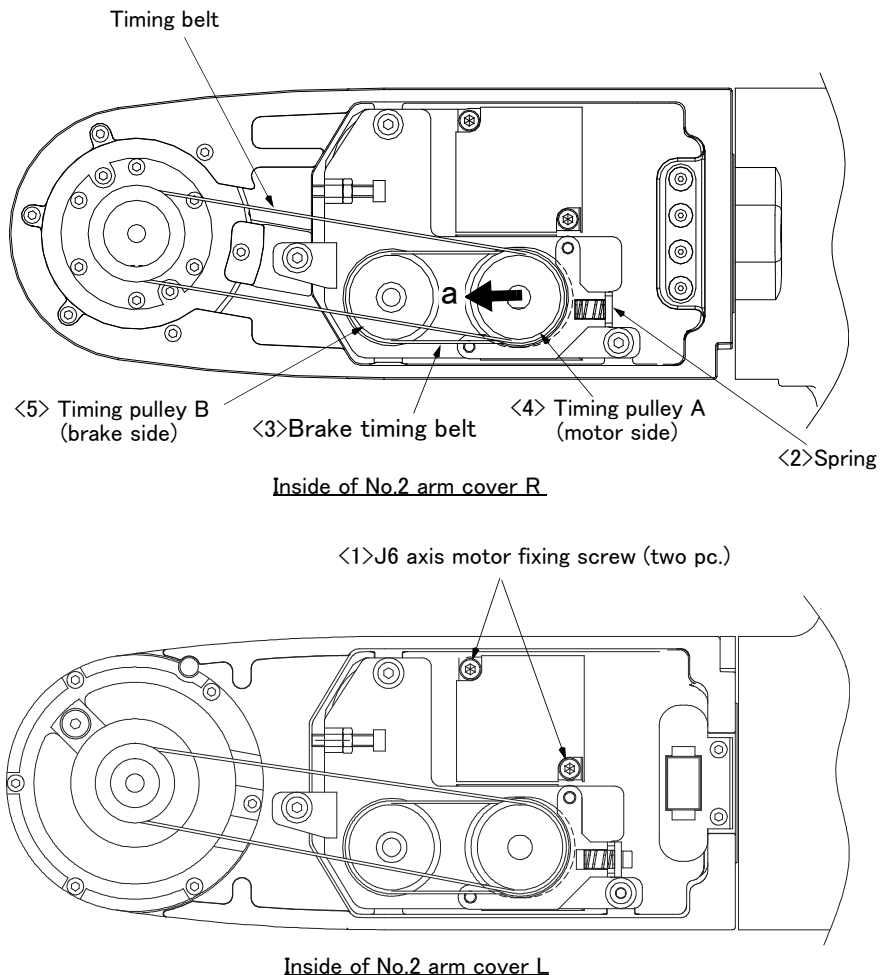

Fig.5-17 : Inspection and replacement of J6 axis brake timing belt (RV-2FRB/2FRLB)
The reference figure at inspection and replacement of the brake timing belt is shown in Fig. 5-17.
- 4) Move motor side timing belt pulley <4> in the direction of the arrow "a" of Fig. 5-17, and remove the brake timing belt.
(9) RV-4FR/7FR series: Inspection and replacement of J1-axis timing belt